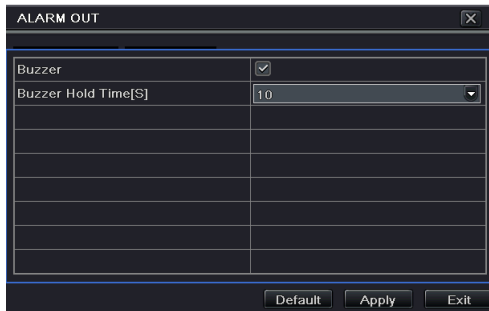

Fig 4-21 Alarm Out
Step 1: Enter into Menu→Setup→Alarm Out. Refer to Fig 4-21: